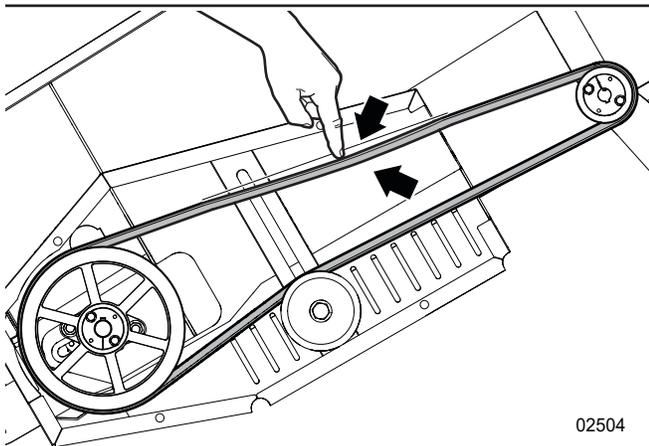

Figure 43—Check the drive belt tension
1. Press on the top centre of the drive belt and measure the distance it moves. See *Figure 43*.